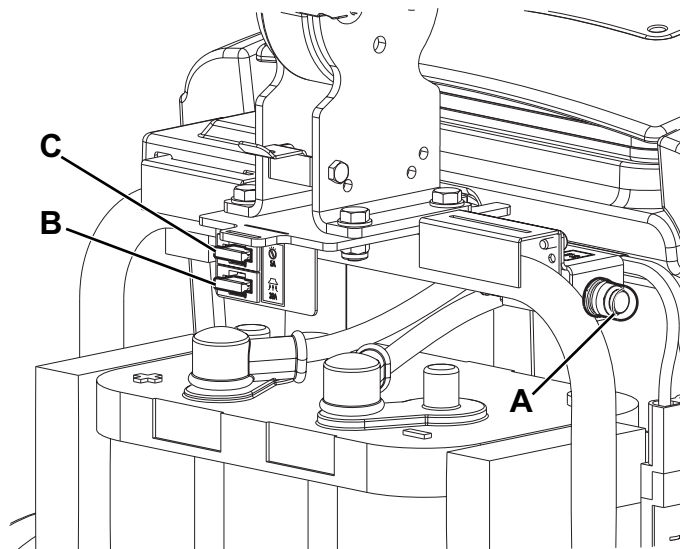

Figure 8
2. Check that the function selection knob (31) is turned to "0" and disconnect the battery connector (7).
3. Open the cover (4) and check one of the following fuses for deactivation or integrity (Fig. 8):
- (A): F1 (35 A) circuit breaker, brush motor.
- (B): F2 (30 A) blade fuse, vacuum system motor.
- (C): F3 (5 A) blade fuse, accessories.